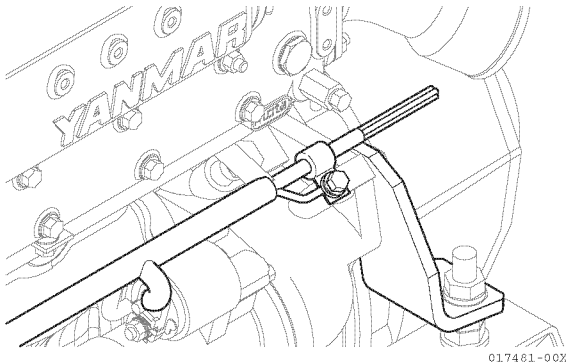

Figure 5-201
72. Connect the electric wiring to the proper terminals, observing the color coding to make sure the connections are correct. Clamp the wire harness by fastening the clamp to upside, to avoid the interference to the mounting foot (Figure 5-201).